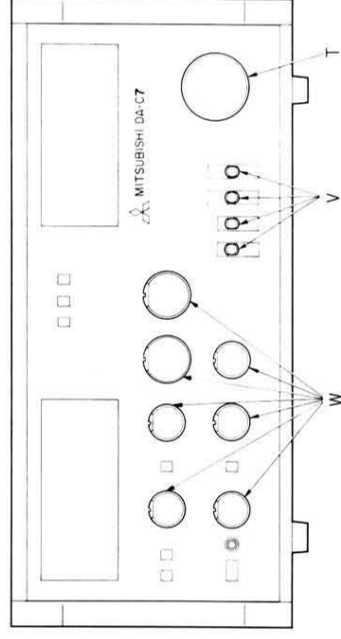

Fig. 3
- 3) Remove the knobs on the front panel. The tuning knob, (T in Fig. 3), should be removed by means of a hexagonal screw driver having a 2 mm opposite side.) The remaining knobs should be removed by forcefully pulling them out toward the front.